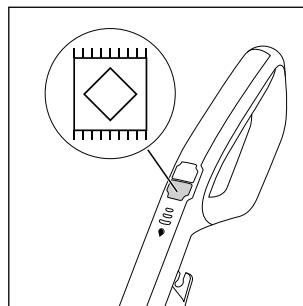

Fig. 17
- ◆ Press the carpet switch  **13** to switch the appliance on (see fig. 17). The LED on the carpet switch  **13** lights up blue.
- When cleaning carpets, if you activate the cleaning solution switch ⑯, twice as much cleaning solution is applied to the rotary brush ⑥ as during hard floor cleaning.
- To allow carpets to dry more quickly after cleaning, move the appliance several times over the carpet. Do not activate the continuous spray function while doing so and do not hold down the cleaning solution switch ⑯.
- ◆ Press the carpet switch ⑯ again to switch the appliance off (see fig. 17).